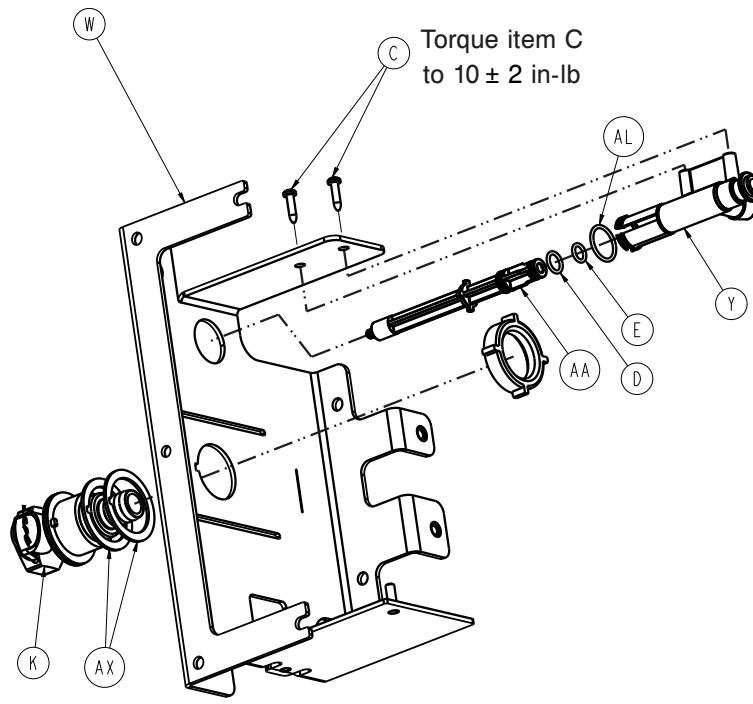

Figure 17 – Drain valve screws
- Pull up and rotate the fluid bracket to access the drain valve screws (C) (Figure 17).